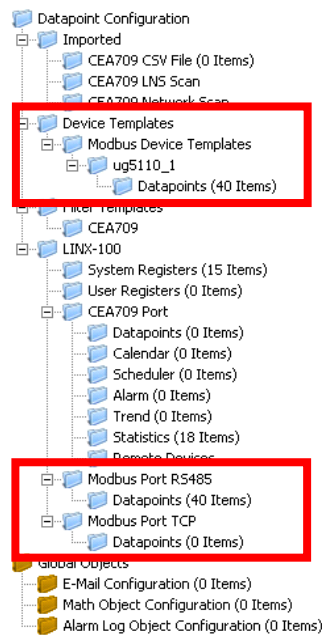

Figure 273: Data Point Manager Dialog with Modbus folder list.
- The folder list (Figure 273),